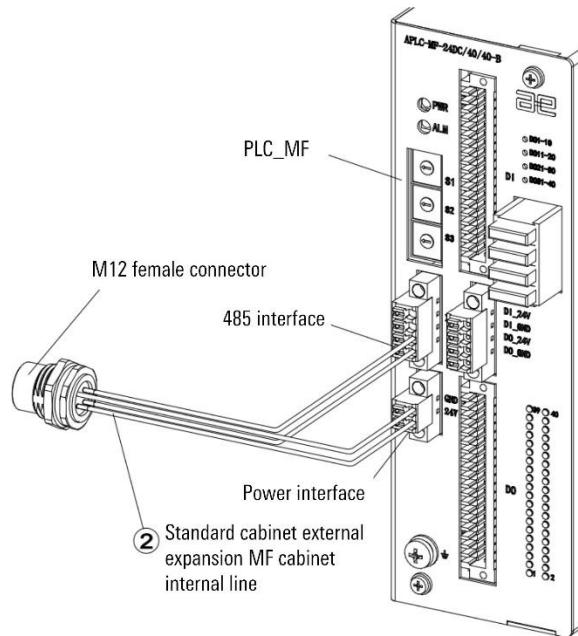

Figure 17-9 Diagram of connecting external expansion MF
Step3. Connect the loose ends of the standard cabinet external expansion MF cabinet internal cables to the power interface and 485 interface of PLC\_MF respectively according to the drawing, and arrange the cables in the cabinet reasonably, refer to Figure 17-9.